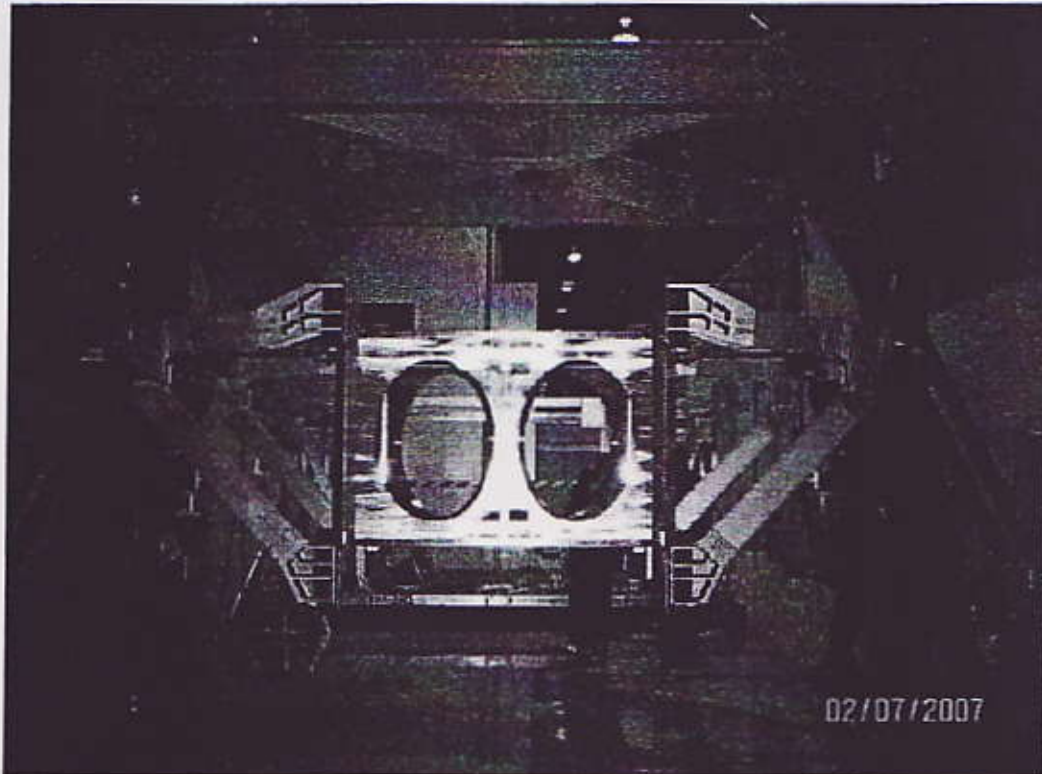

Figure 1. Rotating Assembly Stand (RAS) with AMS USS & Assembly Fixture and PLF and downslings above.
3. Rotate AMS into the upright position, as shown in Figure 1. Close the software and power off the RAS control system. This will engage the motion brakes (motor clutches).